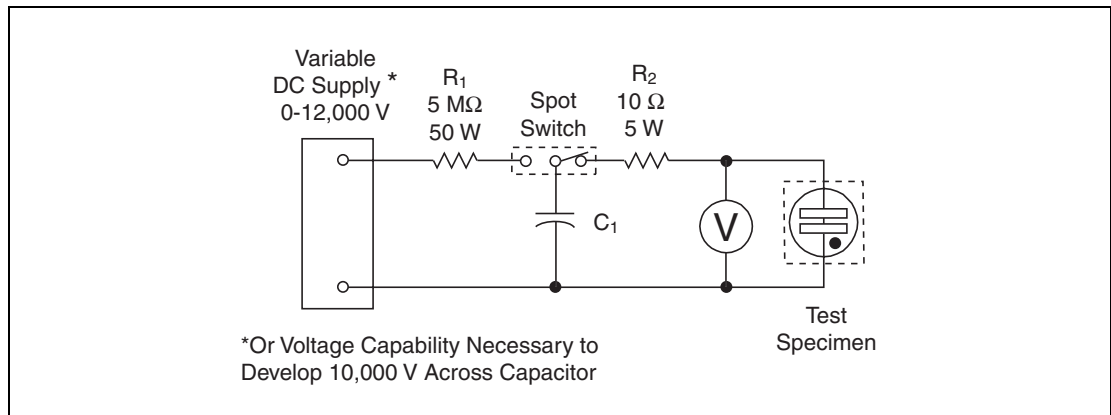

Figure 4.9 UL 497 Discharge Test
- Discharge Test — Protectors must comply with the strike voltage requirements after being subjected to five successive discharges from a 2 μ F capacitor charged to 1000 V dc. (Figure 4.9).
- Repeated Discharge Test — The arrestor must continue to break down at or below its maximum rated breakdown voltage after being subjected to 500 discharges from a 0.001 μ F capacitor charged to a potential of 10,000 V dc. The interval between pulses is five seconds. Arrestors are to be tested in each polarity, and it is acceptable for the protector to short circuit following the discharge testing. (Figure 4.9)